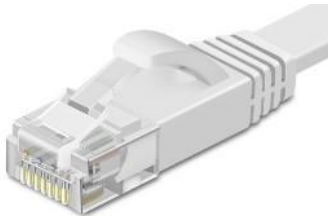

Fig. 15
1. The UV comes with an ethernet cable(see Fig. 15).